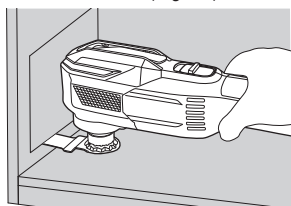

Fig. 14
- (1) Switch the unit on and use the dial to set the speed of the application tool.
- (2) Lightly place the application tool on the material and move the application tool forward at a pace where the movement isn't slowed. (Fig. 14)